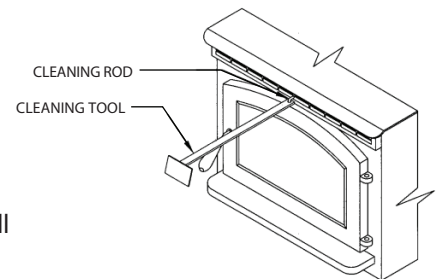

FIGURE 23
(See figure 23)
- With the door closed clean heat exchanger tubes. (See “CLEANING” and Figure 23).
- Heat Exchange Tubes – Your Breckwell stove is designed with a built-in heat exchange tube cleaner. This should be used every two or three days to remove accumulated ash on the tubes, which reduces heat transfer on the SP23. Insert the handle end (with hole) of the cleaning tool onto the cleaning rod (refer to figure 23). The cleaner rod is located in the grill above the stove door. Move the cleaner rod back and forth several times to clean the heat exchanger tubes. Be sure to leave tube cleaner at the rear of the stove.